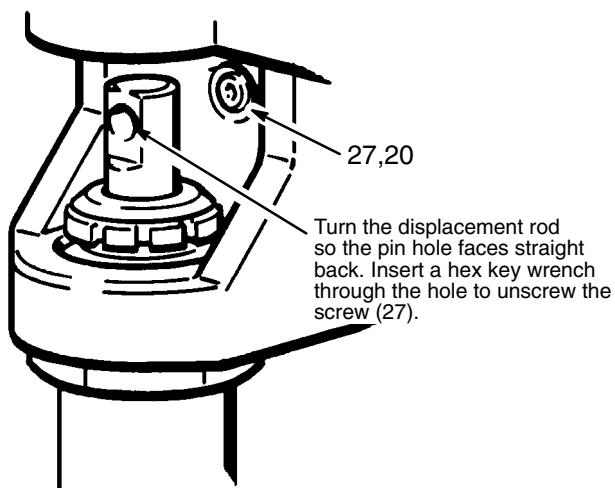

Fig 28-2
5. Loosen the jam nut (41) with an adjustable wrench. Unscrew and remove the displacement pump.
6. Turn the displacement rod so the pin hole faces straight back. Insert a hex key wrench through the hole to remove the screw (27). See Fig 28-2. Remove the other two screws (27) and lockwashers (20) from the front of the drive housing (71). See Fig 29-1.
7. Remove the motor shield (64).
8. Remove the two screws (15) and lockwashers (20) holding the motor to the drive housing.
9. Lightly tap the lower rear of the drive housing (71) with a plastic mallet to loosen it from the front of the motor. Then pull the drive housing straight off.